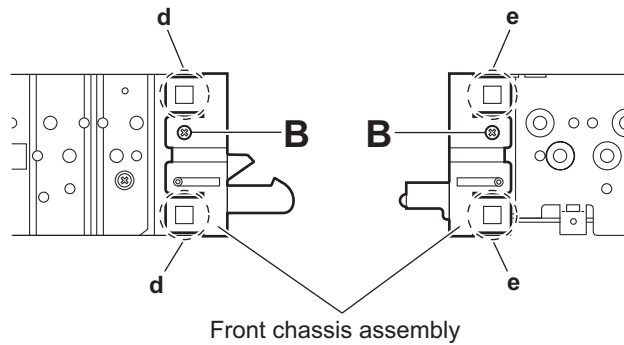

Fig.4
- From the both sides of the main body, remove the two screws **B** attaching the front chassis assembly. (See Fig.4.)
- Release the two joints **d** and two joints **e**. (See Fig.4.)